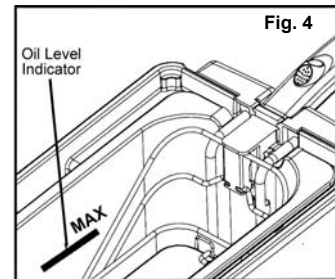

Fig. 4
- The oil level must always be maintained between the minimum and the maximum levels marked inside the oil container. Check the oil level before each use. For best results, keep the oil close to the maximum level. (Fig. 4)